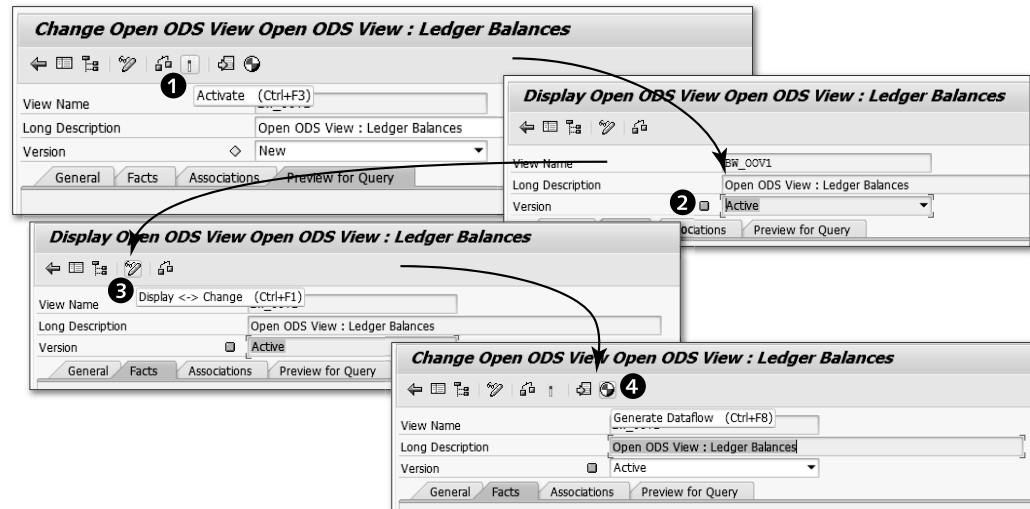
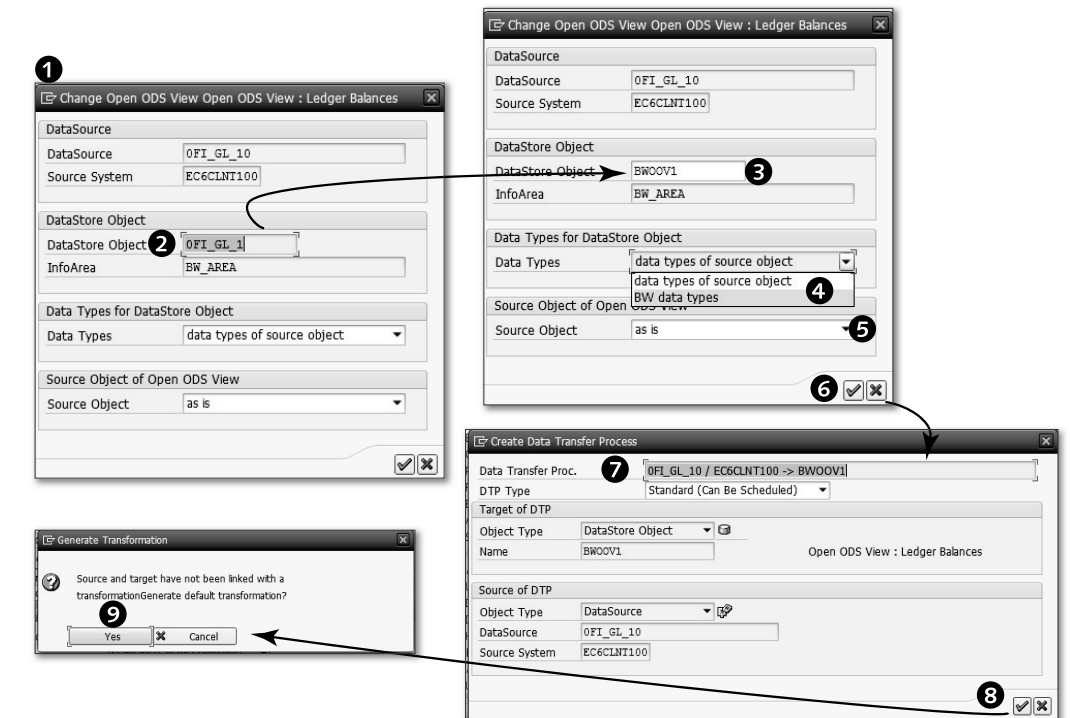

Figure 6.87 Activate and Generate Data Flow
Figure 6.88 Automatic DSO/DTP/Transformation Generation for OOV
The example OOV design is now ready to be activated. Use the ACTIVATE icon as shown in ❶ of Figure 6.87 to make the OOV active ❷.
You don't have to create the DSO from scratch; instead, you can create the DSO based on the OOV design. To do this, you need to go back to Change mode. Click on the DISPLAY <-> CHANGE icon (refer to 3 of Figure 6.87). Now you're in the CHANGE OPEN ODS VIEW screen. Click on the GENERATE DATAFLOW icon 4. This action opens up a popup as shown in 1 of Figure 6.88. The name of the DSO to be generated is proposed by the system, which, in our case, is OFI_GL_1 2. Change this proposal to "BWOOV1" 3. Also, in the DATA TYPES field, select BW DATA TYPES 4, and keep the SOURCE OBJECT field set to AS IS 5.